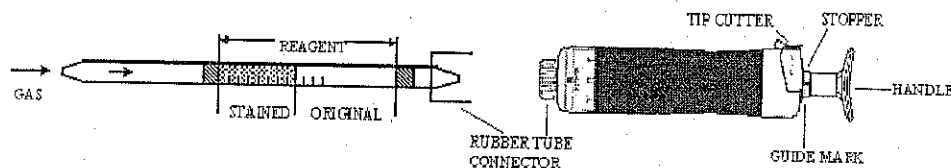

Fig.1
- ② Insert the detector tube into aspirating pump securely as shown in Fig.1. (Arrow mark shall point to the pump.)
- ③ Align the guide marks on the shaft and stopper of the aspirating pump.
- ④ Pull the pump handle at a full stroke until it locks and wait for 1 minute or until the completion of sampling is confirmed with the flow indicator of the pump (See descriptions about the flow indicator in the instruction manual of the pump).
- ⑤ Push the handle without removing the detector tube from the rubber tube connector, and air in the pump will be discharged perfectly. Then repeat the step ④ three times.
- ⑥ On completion of sampling, read the scale at the maximum point of the stained layer.
- ⑦ When the concentrations are below the scale range, 8 pump strokes can be used to determine these lower concentrations.
- ⑧ When the concentrations are over the scale range, 2 pump strokes can be used to determine these higher concentrations.